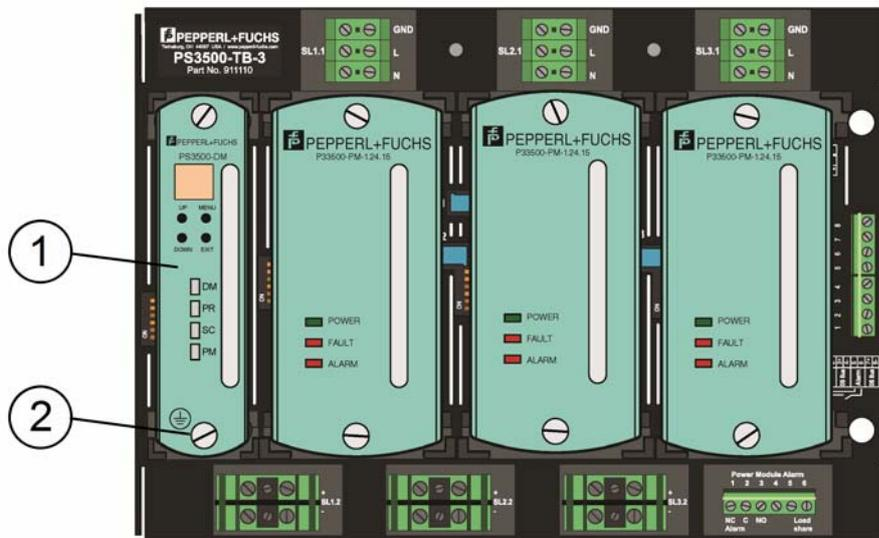

Figure 4.2 Diagnostic Module on a 3-position Backplane
2. Refer to Figure 4.2. Carefully center and mate the connector on the back of the diagnostic module (item 1) to the backplane connector, and press firmly on the module until it is seated.